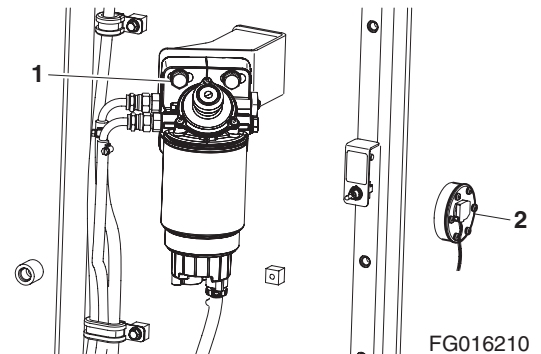

Figure 20
7. Install fuel prefilter (1, Figure 20).
8. Connect fuel sensor harness connector (2, Figure 20).